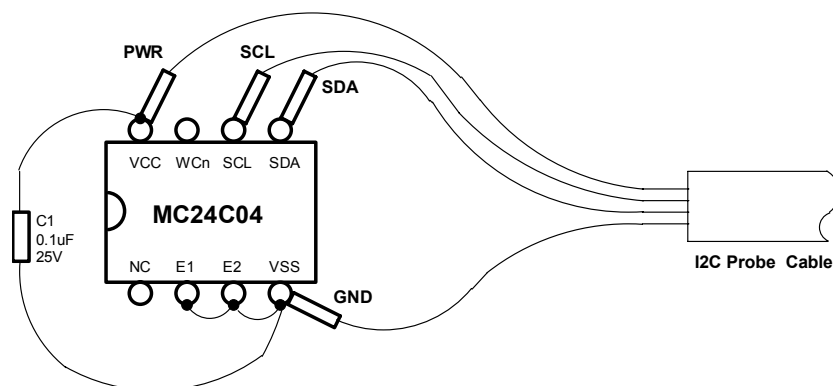

Figure 2. Connections to M24C04 I2C target test device
4. Locate the test M24C04 I2C (4Kbit Serial I2C EEPROM) target device supplied with the kit. (See Figure 2)
5. Connect the four I2C bus probes (SDA, SCL, PWR, and GND) to the I2C target device. (See Figure 2)